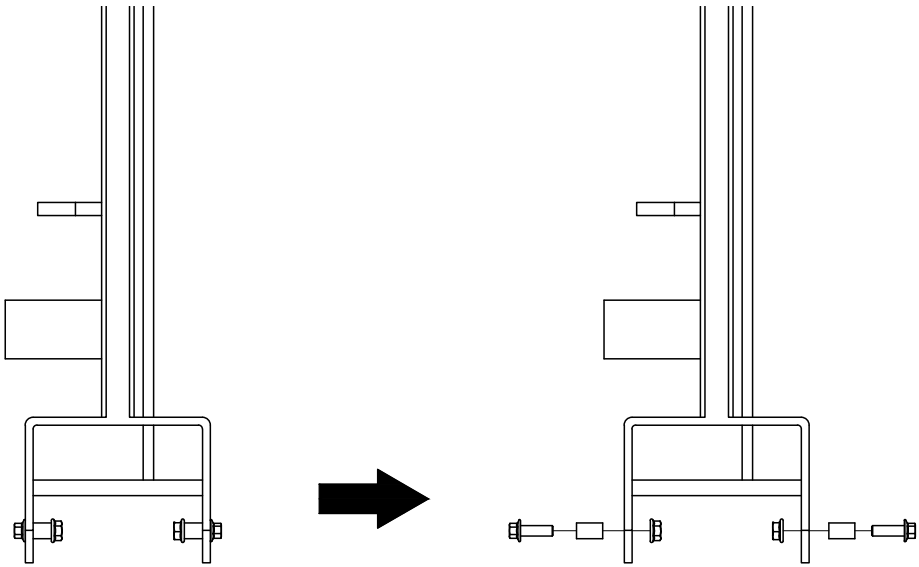

Fig. 01
- First loosen the screw attached to the handle. (see fig. 01)